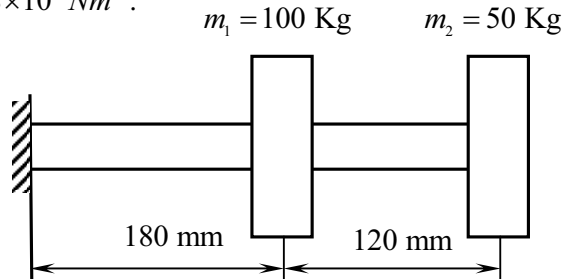

Fig. 4
- 18** Determine the fundamental natural frequency of transverse vibration of the system shown in Fig. 4 using Rayleigh's method and verify it using Dunkerley's method. Take $EI = 8 \times 10^4 \text{ Nm}^2$.